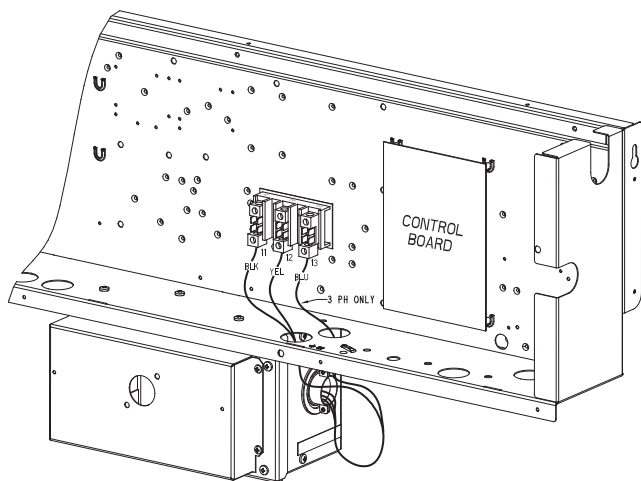

Fig. 24 — NFD Enclosure Location
1. Remove the Control Box access panel. The NFD enclosure is located below the Control Box (see Fig. 24).